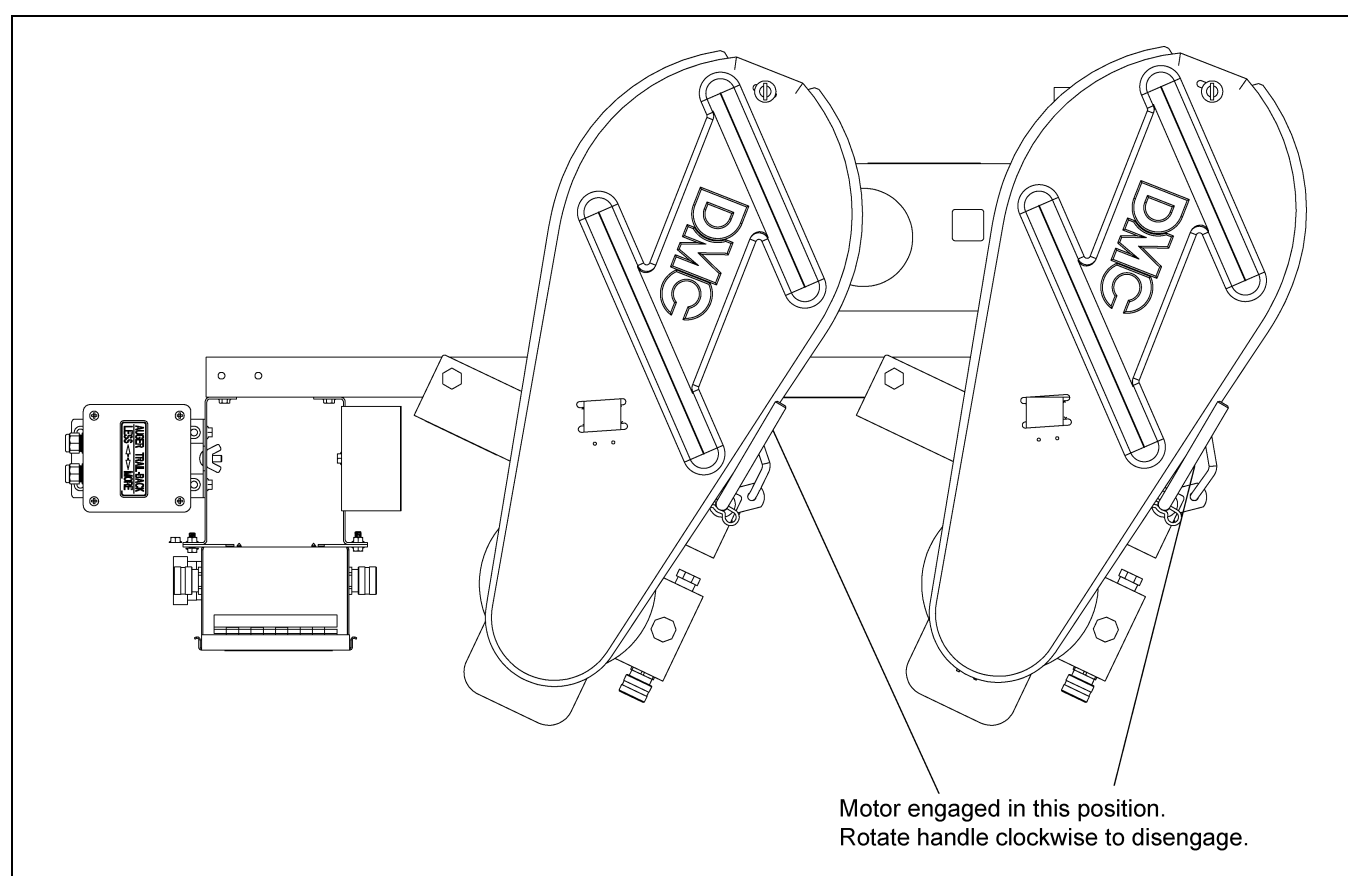

Figure 5A
4. To lock out an auger motor, rotate the handle beside each motor mount **clockwise** until it passes and stays past center. (See Figure 5A.)